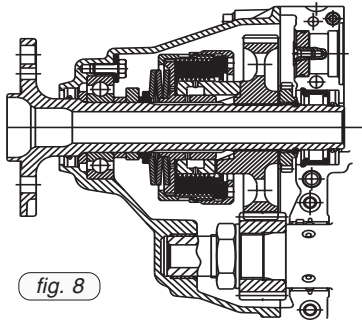

fig. 8
See fig. 8.
- ◆ **NOTE:** Fig. 8 shows a propeller gearbox of configuration 2 with the integrated overload clutch.